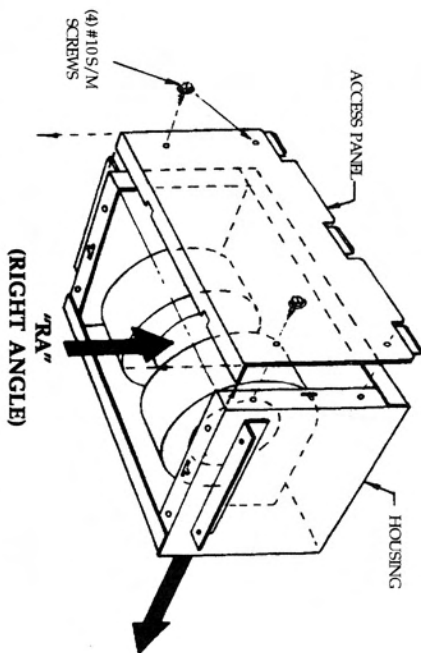

FIG.1
NOTE: As a standard, Super Q RA/TD's are furnished with a Right Angle (RA) discharge as shown in Fig. 1.
- 1) DISASSEMBLE THE ACCESS PANEL FROM THE HOUSING; FIRST REMOVE THE FOUR #10 SHEET METAL SCREWS, THEN REMOVE THE PANEL AS SHOWN IN FIG. 1.